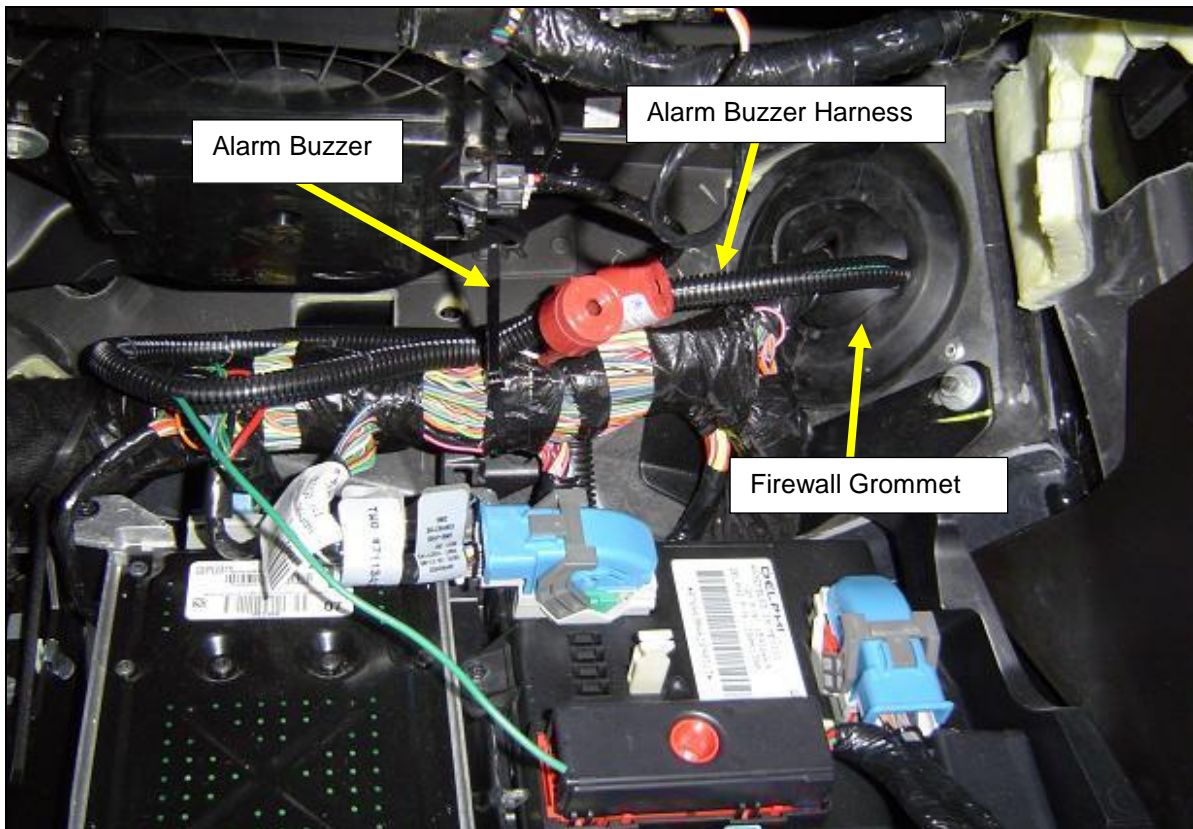

Figure 19
2. From the engine bay, remove the ALARM buzzer from the STS harness and route the ALARM section of the harness through the hole in the firewall grommet and into the passenger's compartment as shown in **Figure 19**. Use a fish or coat hanger to feed the wires through the grommet.